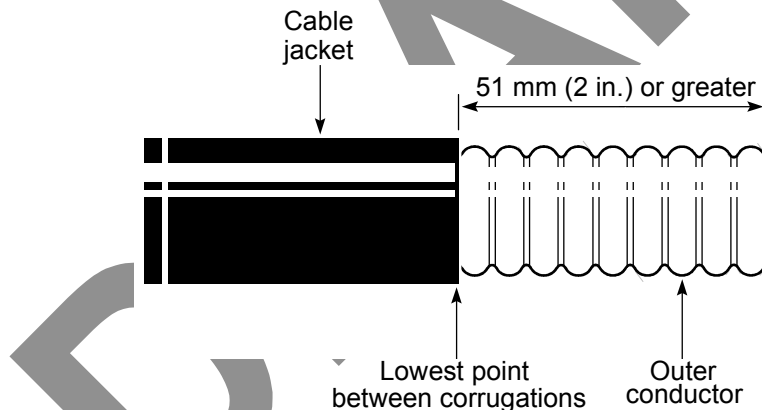

Figure 56 – Removing the insulation
1. Strip 51 mm (2 in.) or more of the cable jacket from the IF cable, ending at the lowest point of a valley between two corrugations, as shown in Figure 56.